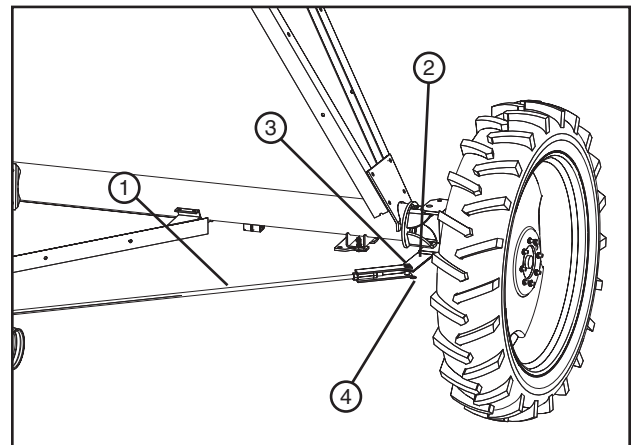

Figure 65-2 1. Tie Rod 2. Steering Arm 3. Clevis Pin 4. Hair Pin
2. Connect end of tie rod to steering arm with one clevis pin and hair pin. See figure 65-2.